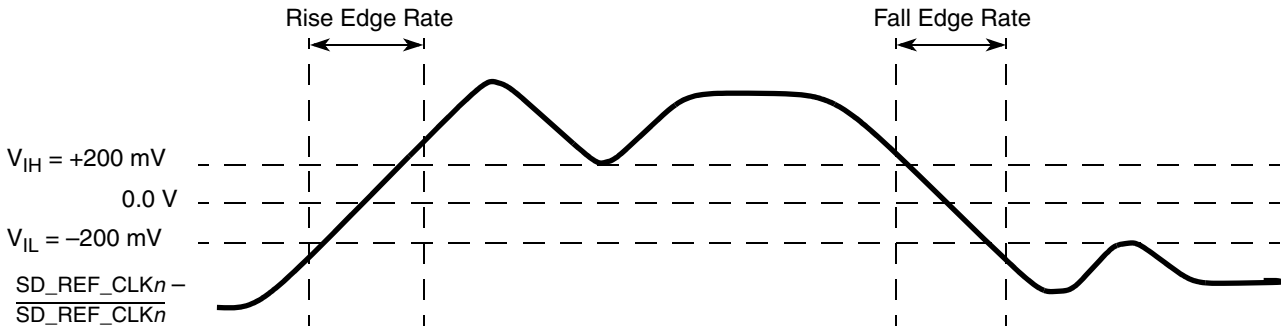

Figure 47. Differential Measurement Points for Rise and Fall Time
The differential waveform is constructed by subtracting the inverting signal ($\overline{SDn\_TX}$, for example) from the non-inverting signal (SDn_TX , for example) within a differential pair. There is only one signal trace curve in a differential waveform. The voltage represented in the differential waveform is not referenced to ground. Refer to Figure 47 as an example for differential waveform.
3. Measured from –200 mV to +200 mV on the differential waveform (derived from SDn_REF_CLK minus $\overline{SDn\_REF\_CLK}$). The signal must be monotonic through the measurement region for rise and fall time. The 400 mV measurement window is centered on the differential zero crossing. See Figure 47.